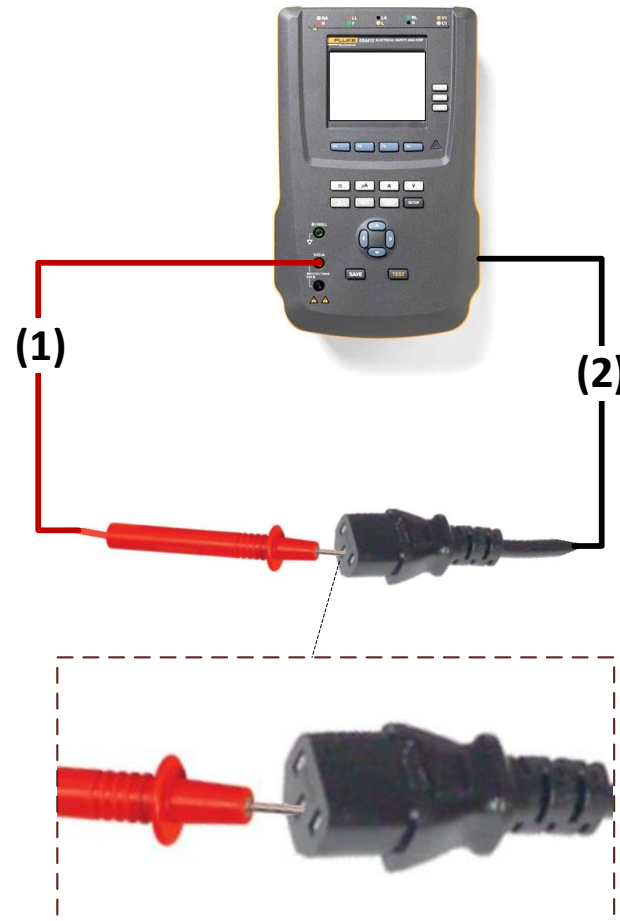

Figure 1.30a
3. Establish the setup as shown in Figure 1.30a.
4. Measure the resistance of AC power cord **ground conductor** per figure 1.30a. Record the resistance value on the PIP checklist. The measured value must be below 0.1 ohms.